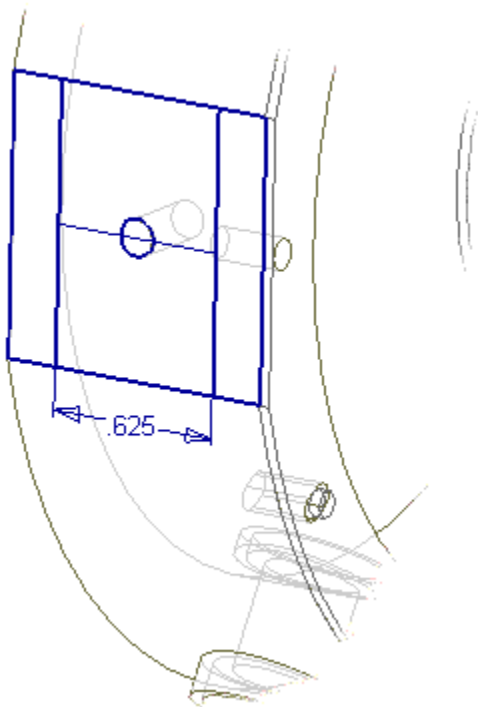

Figure 9: Sketch geometry.
2. Complete the sketch shown in Figure 9. Two horizontal construction lines of equal length center the vertical lines about the hole.